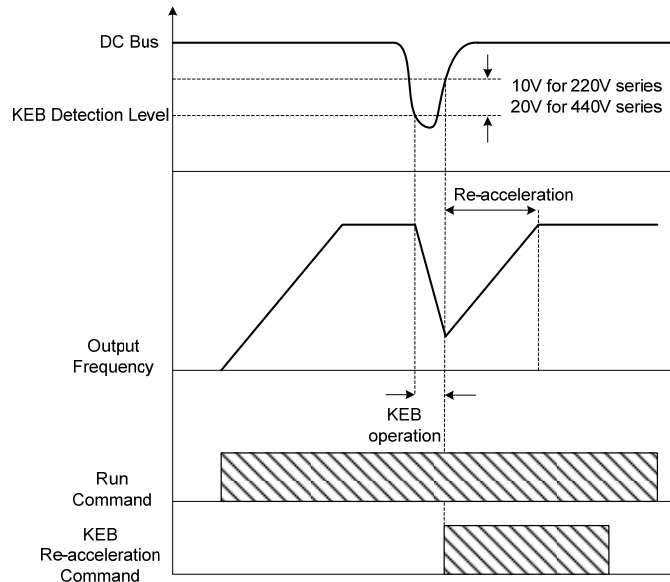

Figure 4.3.95 KEB operation
(1) KEB eceleratin time (11-47)
- If 11-47 is not set to 0.0, KEB function will be enabled. When DC voltage is lower than the set value of 11-48, the KEB function will start decelerating according to 11-47. Until the DC voltage is higher than 11-48 +10 V (220V series +10 V, 440V Series +20 V), the digital input command (03-00 to 03-07) will make the driver re-accelerate to the original frequency. Refer to the example in Figure 4.3.95.